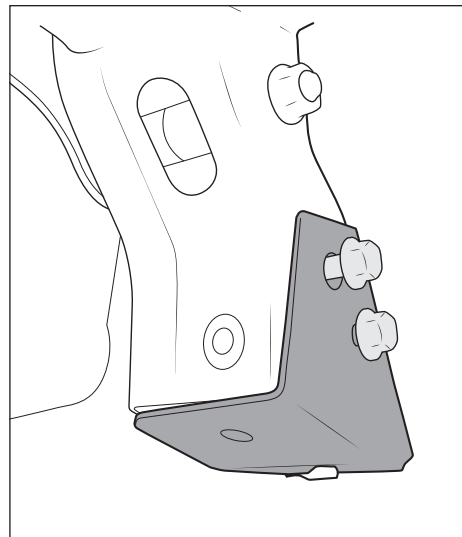

Figure 28
3. Install provided skidplate mounting brackets using M10 bolts and washers from skidplate kit. Hold the brackets tight to the bottom of the compatibility beam and torque bolts to 40 ft-lb (fig. 28).